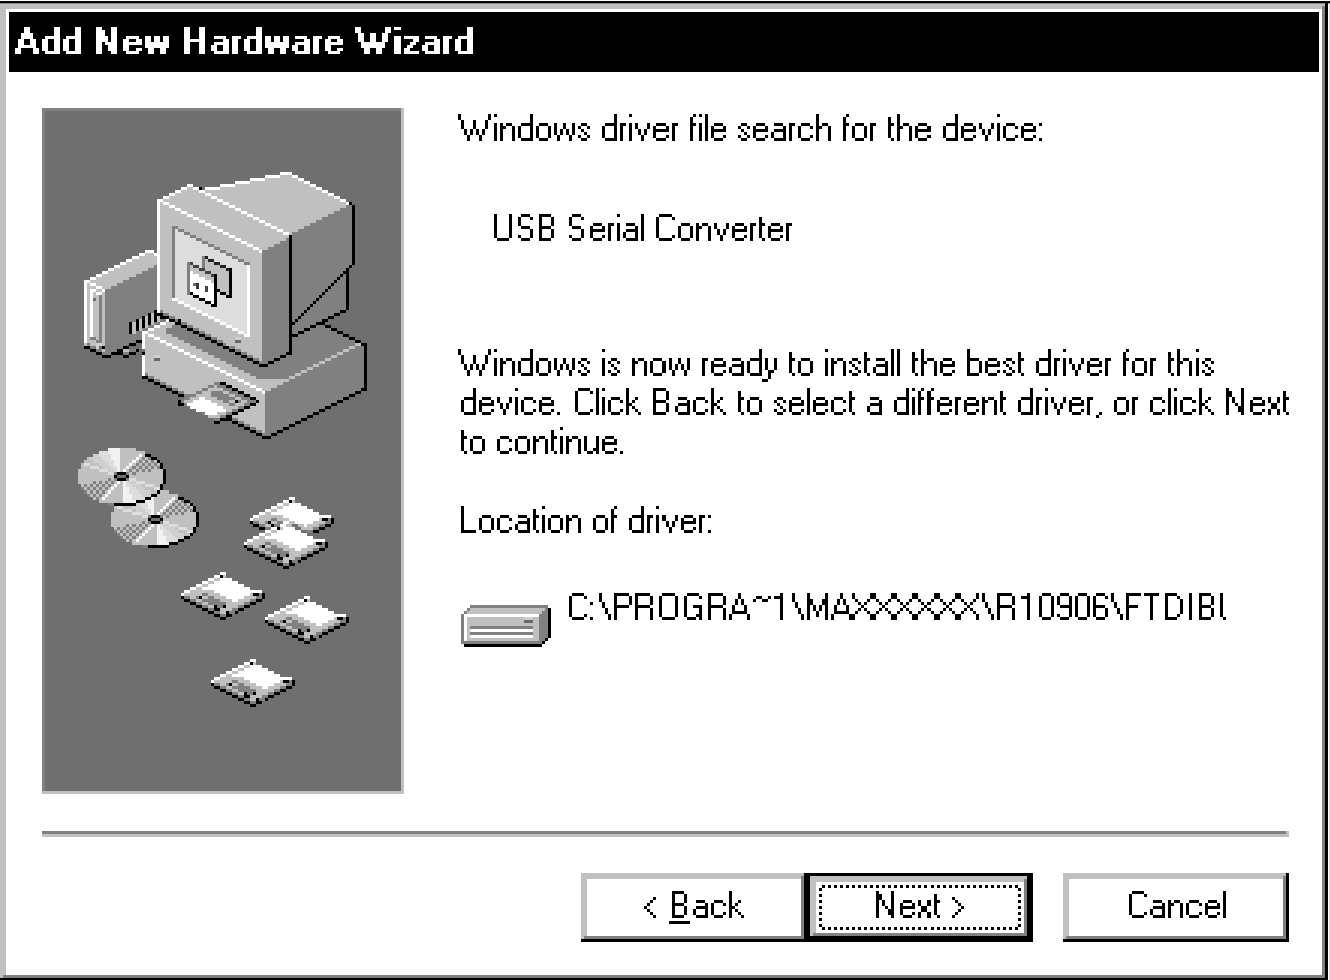

Figure 26. Windows 98SE: **Add New Hardware Wizard | Search** Window
- 4) The **Add New Hardware Wizard | Search** window appears (Figure 26). Press the **Next** button once the driver has been located.